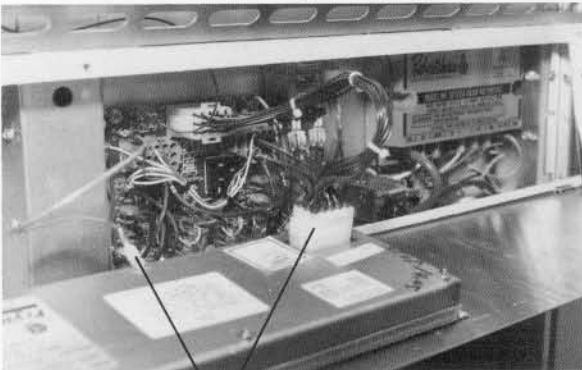

Figure 2
3. Unplug wiring harness and ground wire from back of computer (Fig. 2).